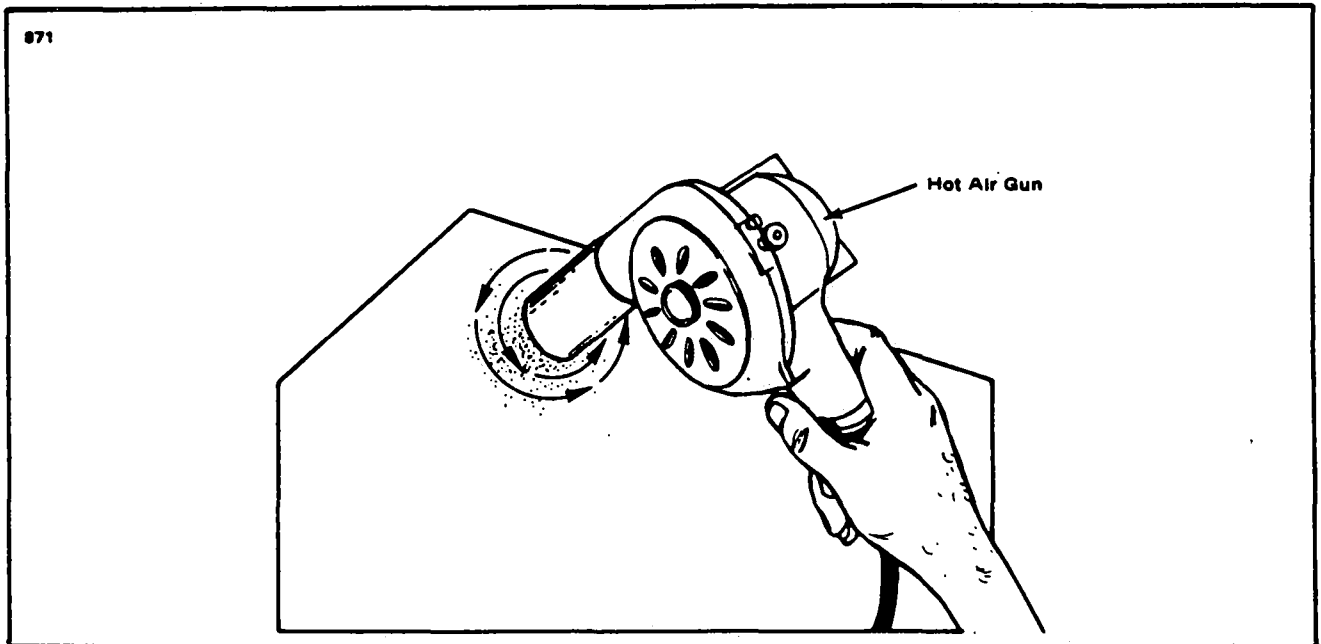

Figure 4-14. Surface Scratches, Abrasions or Ground-in-Dirt
b. Surface Scratches, Abrasion or Ground-in-Dirt: (Refer to Figure 4-14.)